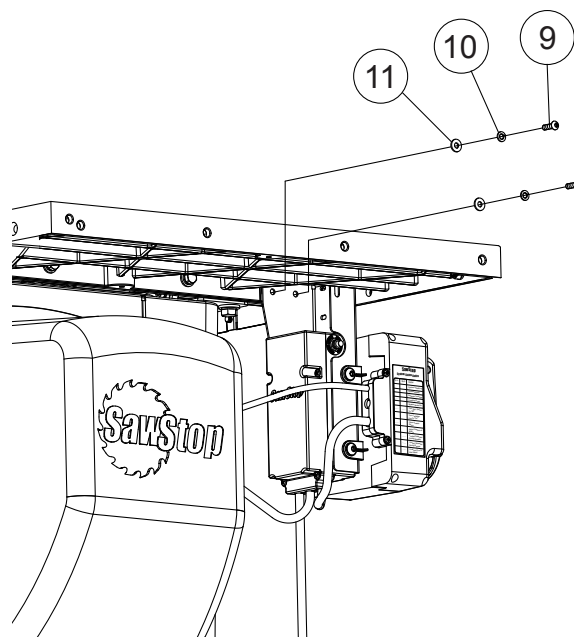

Fig. 29
- The hardware required to mount the switch box is located in the area with the orange background on the Table Saw Hardware Pack. Remove two M6 x 20 button head socket screws, two M6 lock washers and two M6 washers and place a lock washer followed by a washer on the end of each screw. Mount the switch box under the left extension wing by inserting the screws into the two holes at the upper end of the switch box mounting bracket (see Fig. 28) and threading them into the holes towards the front of the left extension wing (see Fig. 29). Tighten the screws with a 4 mm hex key.